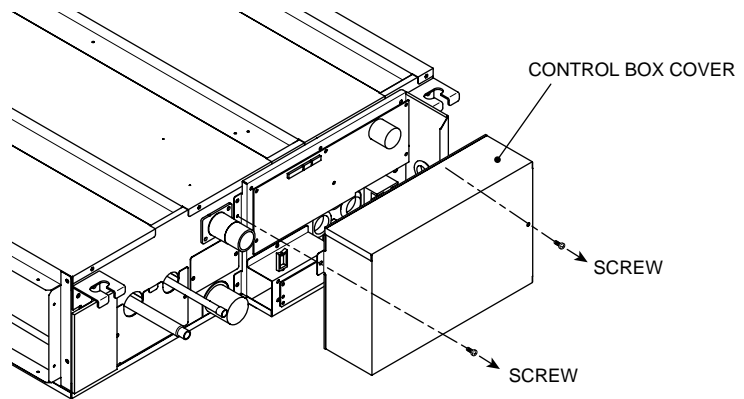

Fig. 1
- (1) Remove the CONTROL BOX COVER from the unit by unscrewing the two screws on the cover. (Fig. 1)